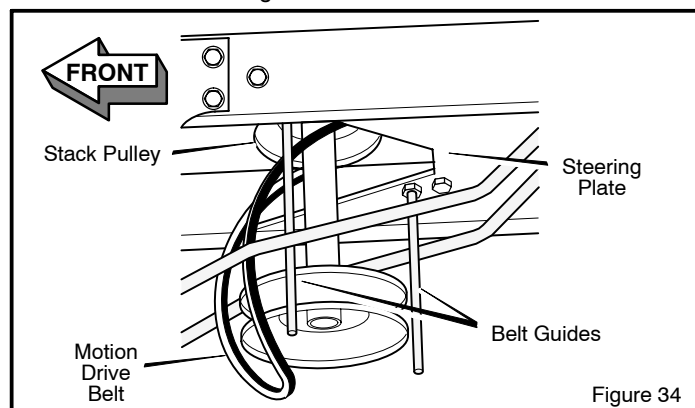

Figure 34
7. To remove the **motion drive belt** from the **stack pulley**, pull the front end of the belt under the **stack pulley** and then back between the stack pulley and the **steering plate** (Figure 34).
1. Slide the **motion drive belt** between the **stack pulley** and the **belt guides** (Figure 34). Install the **motion drive belt** on the top pulley of the **stack pulley**. Make sure the "V" side of the belt is against the pulley.